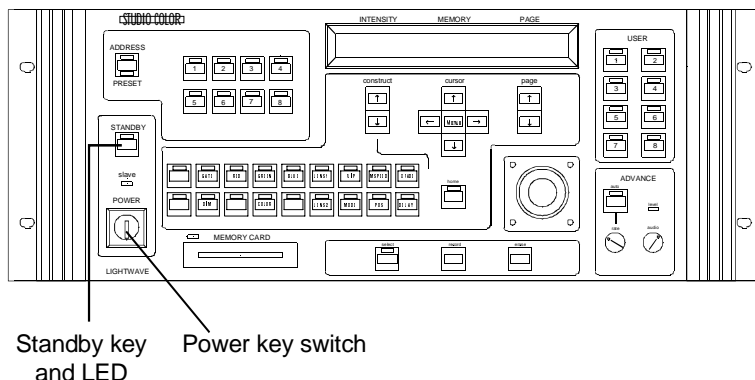

Figure 2-18. Locations of the power key switch, the <Standby> key and Standby LED.
3. Insert the controller power key into the controller's front panel power key switch and turn the key clockwise. The location of the key switch is shown in Figure 2-18.